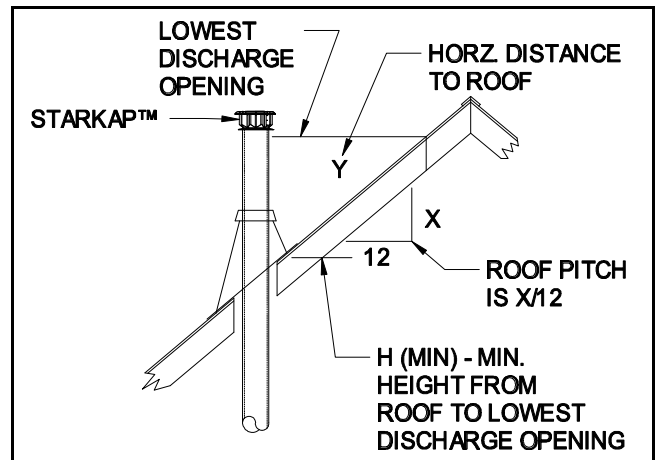

Figure 1
1. Install and secure the vertical vent, gas vent or metal chimney according to manufacturer's instructions or in accordance with NFPA 54 National Fuel Gas code or applicable local codes. The termination of the vertical vent or metal chimney **MUST** be installed in accordance with the height and roof pitch table (See Figure 1 or Table 1 or refer to NFPA 54 for requirements). These minimum heights may be used if the vertical gas vent is not less than 8 feet from any vertical wall. For other installations, the termination shall be not less than 2 feet above the highest point where the vertical vent passes through the roof and at least 2 feet higher than any portion of a building within 10 feet.